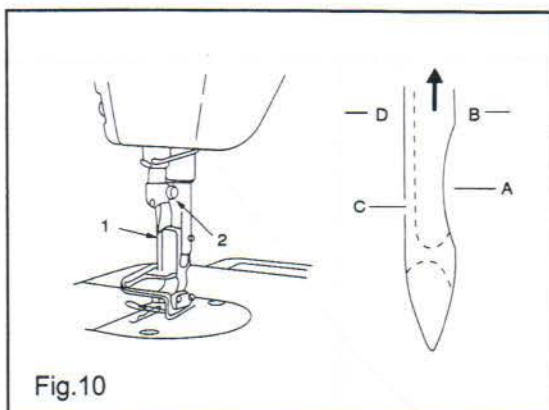

Fig.10
4. ATTACHING THE NEEDLE (Fig.10)